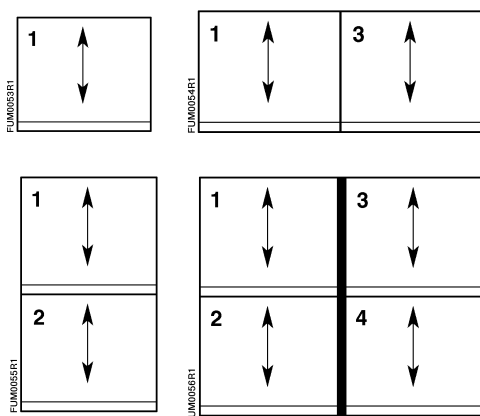

Figure 27. Sash Wire Numbering.
5. If there are multiple sashes, use the wire marker labels to number the end of the sensor wires. See Figure 27 for proper sash numbering.
9. If there are multiple sashes, use the wire marker labels to number the end of the sensor wires. See Figure 27 for proper sash numbering.